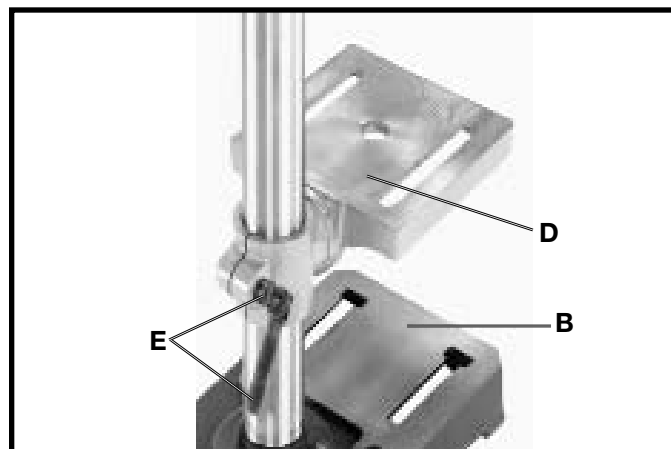

Fig. 5
3. Thread clamp handle (E) Fig. 5, into holes in rear of table bracket as shown. Align table (D) to base (B) and tighten clamp handle (E).